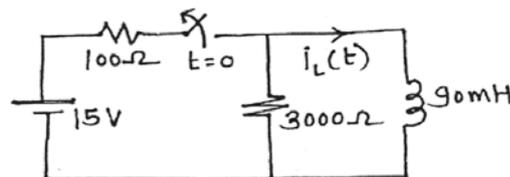

Fig. 2
- c) For the network shown in Fig. 2, steady state is reached with switch closed. The switch is opened at  $t = 0$ . Obtain expressions for  $i_L(t)$  for  $t > 0$ . [6]